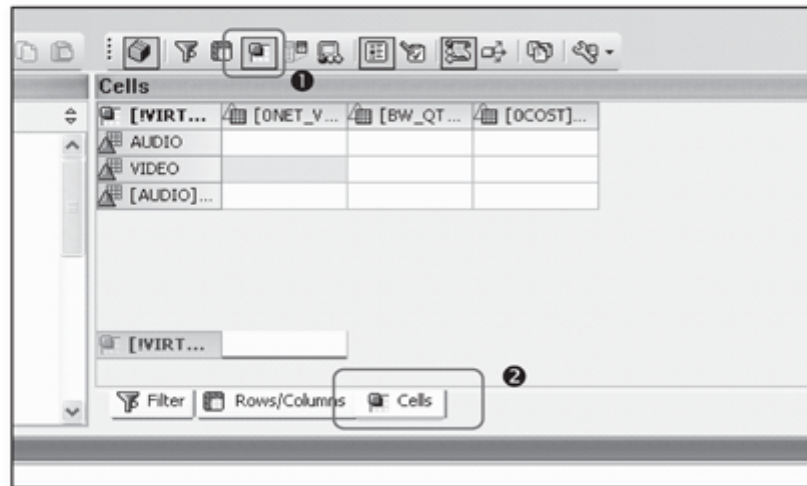

Figure 9.48 Cell Definition
When you use two structures in a query, you can additionally define a separate logic (selections or formula) for each cell formed due to the intersection of the two structures. This logic will override the cell values generated implicitly from the intersection of structures. Click on the cell definition button (❶ of Figure 9.48) or use menu path VIEW • CELLS. This option is activated only when there are two structures in the query.
When cell definition is enabled, an additional Cells tab area is visible on the query designer layout (❷ of Figure 9.48).